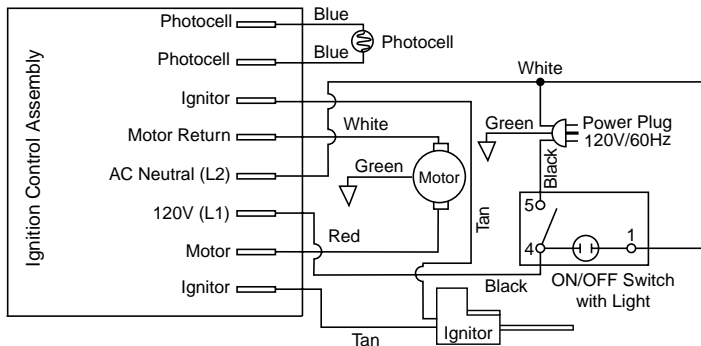

Figure 28 - Wiring Diagram (100VT and 140VT Models)
5. Install new air and/or fuel line. Attach one end of air line hose to barb fitting on pump end cover (see Figure 28) and the other end to nozzle adapter (see Figure 17, page 13, or Figure 20, according to model). Attach one end of fuel line hose to fuel filter (see *Fuel Filter*, pages 10 and 11) and the other end to nozzle adapter (see Figure 17, page 13, or Figure 20, according to model).